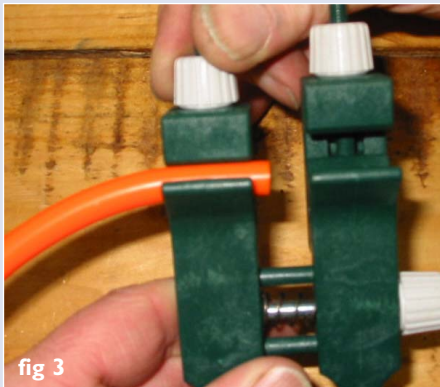

fig 3
- 5) Loosen the clamp nuts on top of the unit and place the ends of the belt in the clamping grooves. Position the belt ends to leave a 4mm gap. Re-tighten clamp nuts to hold the belt in position.(see fig 3 and 4)